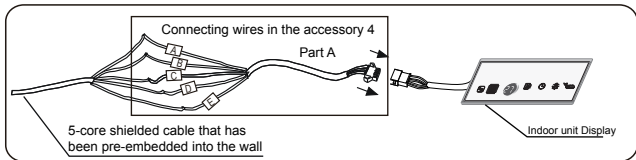

Figure 3.7
1) Connect the larger 5-way terminal of part A connecting wires to the indoor unit display. Connect the other end of part A connecting wires (the cut end) to the 5-core shielded cable that has been pre-embedded into the wall (see Figure 3.7).